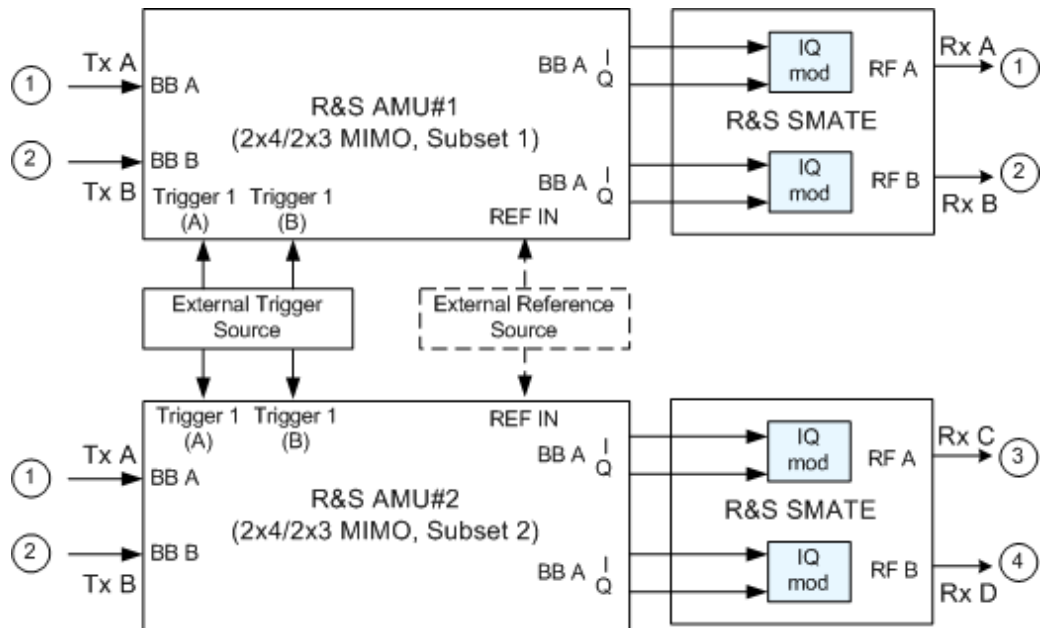

Figure 5-8: 2x4/2x3 MIMO up to 6GHz with two R&S AMUs and two R&S SMATEs
5. For simulation of a 2x4 or 2x3 MIMO mode up to 6 GHz, the two R&S AMUs and two R&S SMATEs have to be connected as a chain (see Figure 5-8).